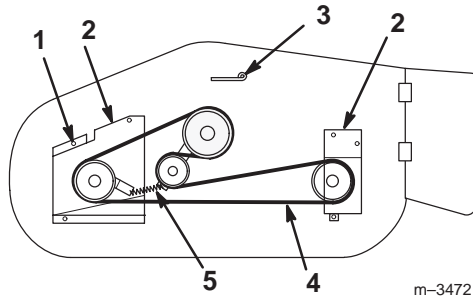

Figure 34
2. Remove the pulley cover mounting screws and pulley covers from the blade pulleys (Fig. 34).
3. Release the spring (Fig. 34).
4. Remove the belt from the pulleys (Fig. 34).
2. Attach the spring (Fig. 34).
3. Install the left and right pulley covers with the mounting screws (Fig. 34).